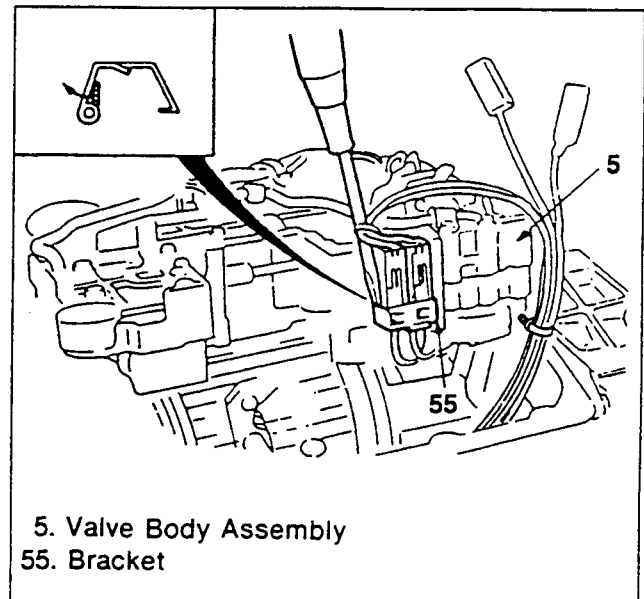

Figure 9. Connector Bracket Removal (2)
2. Remove connector bracket using a screwdriver, etc., and disconnect connectors (figure 9).